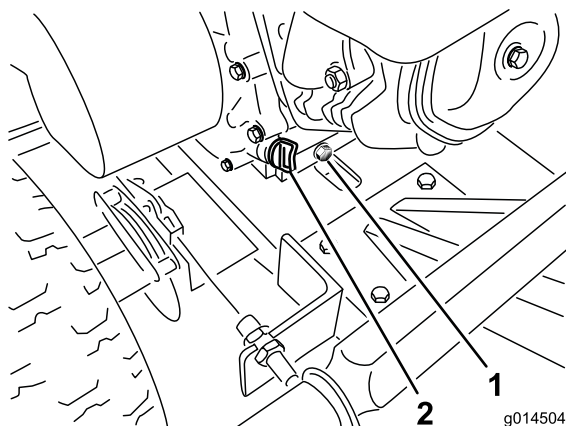

Figure 12
5. Remove the drain plug and drain the oil through the hole slot in the frame (Figure 12).
7. Remove the oil fill cap and slowly pour approximately 80 percent of the specified amount of oil into the engine (Figure 12).